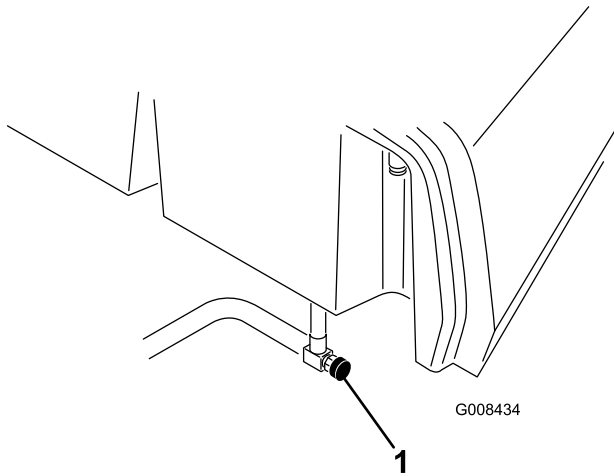

Figure 38
1. Close the fuel shutoff valve (Figure 38) below the fuel tank.